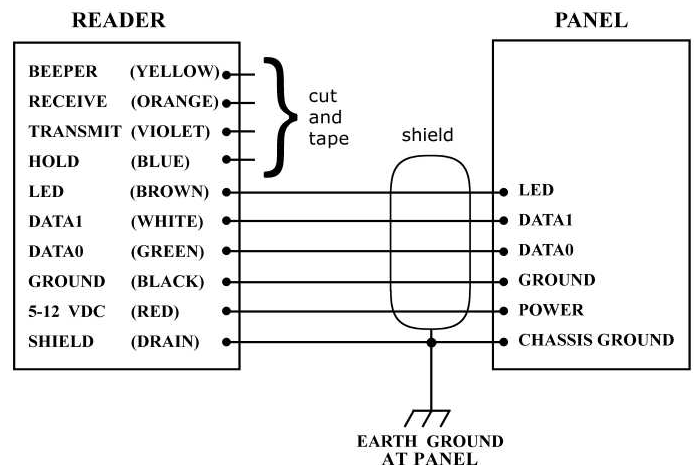

FIGURE 2: WIRING DIAGRAM (WIEGAND)
- 5, 6 or 7 conductors (not twisted pairs), stranded, 22 AWG, color-coded insulation, overall 100% shielded (Number of conductors depends upon use of optional features – Beeper, Hold and LED. See Figure 2.)
4. Connect the reader's cable to the access control panel as shown in Figure 2. Connect the **yellow** wire only if used for Beeper control by the panel. In steps 9 and 10, let the yellow wire **float**. Connect the **blue** wire only if used for Hold control by the panel. **Do not connect** the **orange** and **violet** wires to anything. **Tape or cap all unused wires singly.**